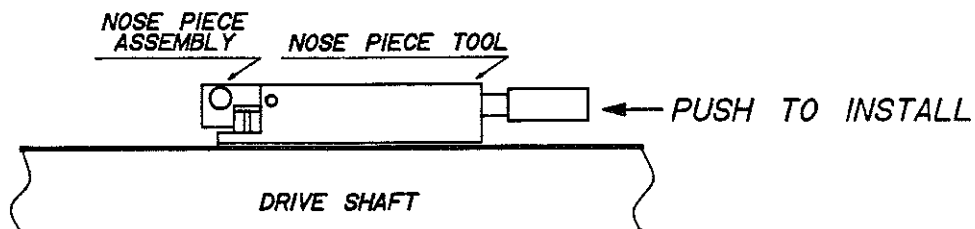

FIGURE 1-8 : INSTALLING THE NOSE PIECE ASSEMBLY
4. Clip the nose piece assembly in the nose piece tool as shown in figure 1-8.
5. Position the nose piece tool with installed assembly in line with the drive shaft as shown in figure 1-8.